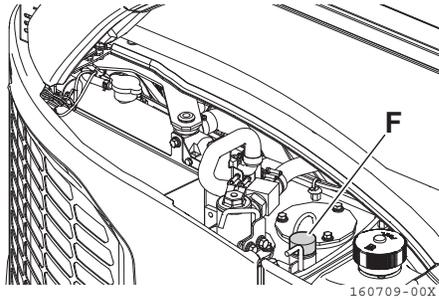

Fig. 3-13
3. If the ball is located below the midpoint, open the front cover (right) and then the supply port cap (**Fig. 3-13, F**), and refill the hydraulic oil.